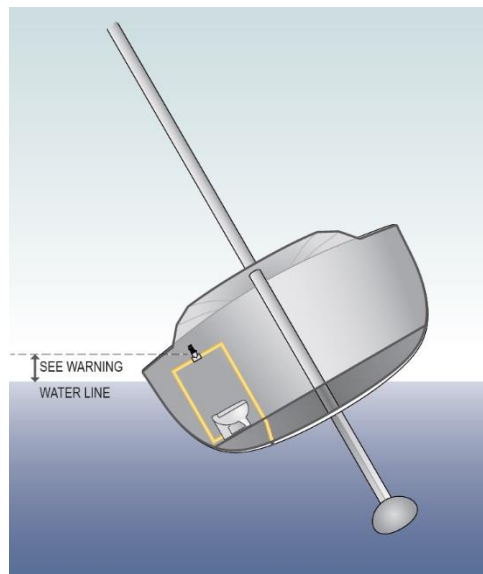

Fig. 2
**WARNING:** The floating line must be calculated taking into consideration the various sailing trims. See fig. 2.